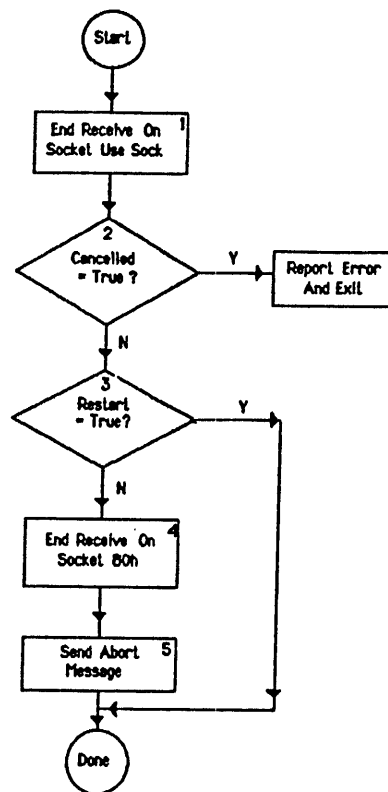

Figure 3.10: Flush
4. If a timeout or cancellation error occurred, try to recover. See figure 3.10 for a description of the recovery procedure.